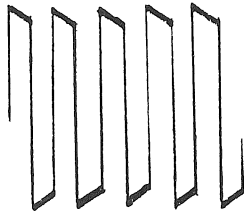

Fig. 7-1. Severe "tilt" to Calibrator waveform injected through EP53A, indicating defective input amplifier tubes. (Sweep: 2 msec/cm.)
7.1.2 Input Stage Check: Install voltage-measurement plug-in. Center free-running trace and measure bias in input stage of main vertical amplifier. Measure between grid and cathode of each input stage tube (6AW8 or 12BY7A). If less than 1.0 volt or more than 2.0 volts, replace both input amplifier tubes*. If this does not correct the bias, check to see that the DC level at pins 1 and 3 of the interconnecting socket are at $+67 \text{ v} \pm 1 \text{ v}$. If not, use another plug-in. Now, install Type EP53A Gain Adj adapter between the plug-in and the oscilloscope. Apply 0.2 v of Calibrator waveform to the EP53A banana jack, using banana patch lead. Adjust triggering controls for stable display at 2 msec/cm. Check for slope of top of waveform (Fig. 7-1). Top of waveform should be substantially flat. Note apparent condition of tubes in Cal Record.